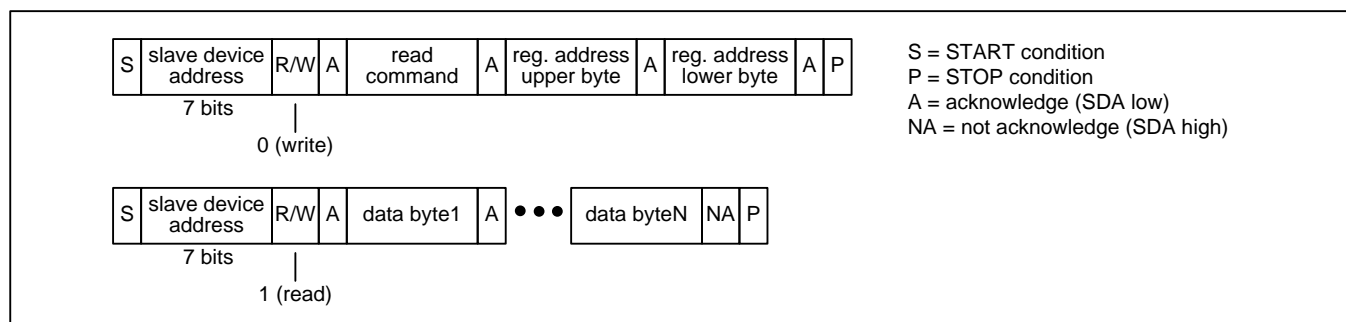
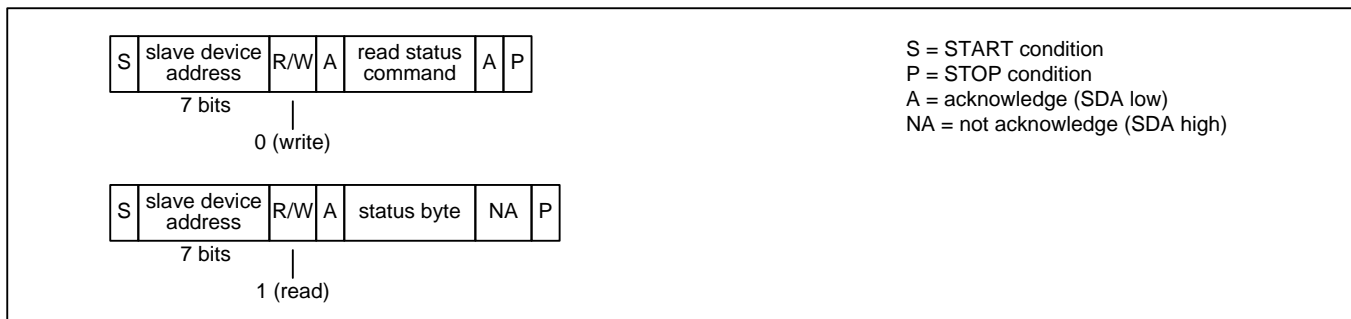

Figure 9 - I²C Read Transaction Functional Timing
Figure 12 - I²C EEPROM Read Status Transaction Functional Timing (ZL30261 and ZL30263 Only)
command (see Table 3), the upper byte of the register address, and the lower byte of the register address. The bus master then does an I²C read. During each acknowledge (A) bit the device fetches data from the read address and then increments the read address. The device then transmits the data to the bus master during the next 8 SCL cycles. The bus master terminates the read with a not-acknowledge (NA) followed by a STOP condition (P). See Figure 9. After the I²C write there can be unlimited idle time on the bus before the I²C read, but the device cannot tolerate other I²C bus traffic between the I²C write and the I²C read. Care must be taken to ensure that the I²C read is the first command on the bus after the I²C write to ensure the two-part read transaction happens correctly.
EEPROM Read Status (ZL30261 and ZL30263 Only). The bus master first does an I²C write to transmit the SPI Read Status command (see Table 3) to the device. The bus master then does an I²C read to get the status byte. In this byte, the least significant bit is set to 1 if the transfer is still in progress and 0 if the transfer has completed. See Figure 12. Similar to read transactions described above, the I²C write and the I²C read cannot be separated by other I²C bus traffic.
Note: In Figure 9 through Figure 12, a STOP condition (P) immediately followed by a START condition (S) can be replaced by a repeated START condition (Sr) as described in the I²C specification.